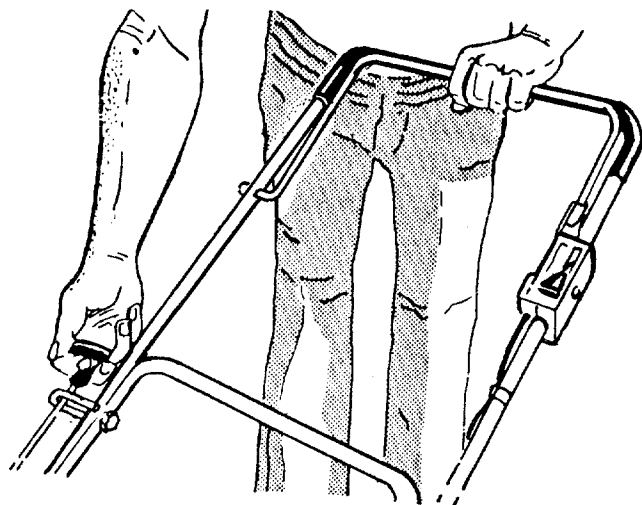

FIGURE 13.
4. Standing behind the unit, depress the blade control handle and hold it against the upper handle as shown. See figure 13.